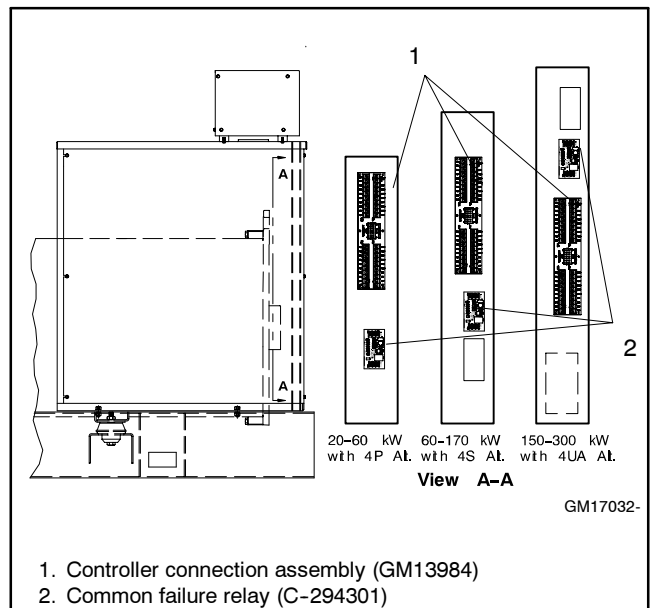

Figure 2 Controller Connection Assembly Mounting Locations in Junction Box (20-300 kW)
- 2.1.2 Attach the controller connection assembly (GM13984) to the junction box using six screws (X-51-3), spacers (X-712-9), and nuts (X-6210-4). Place the spacers between the controller connection assembly and the junction box bracket. See Figure 2 for the mounting location.
3.1.1 Mount the common failure relay (C-294301) to the junction box using four screws (X-51-3), spacers (X-712-9), and nuts (X-6210-4). Place the spacers between the common failure relay and junction box bracket. See Figure 2 for the mounting location.